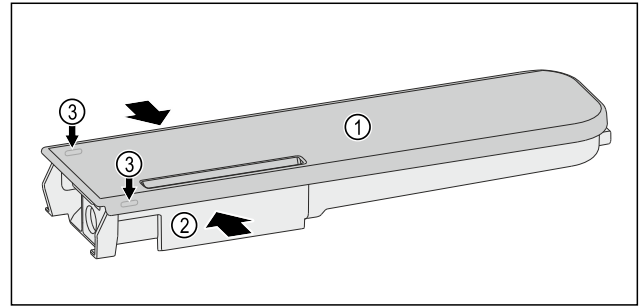

Fig. 171
- Squeeze the water tank Fig. 171 (2) and carefully lever the cover Fig. 171 (1) over the latches Fig. 171 (3) pull it up.
- Slightly move the cover Fig. 171 (1) back and forth and remove it from the top.